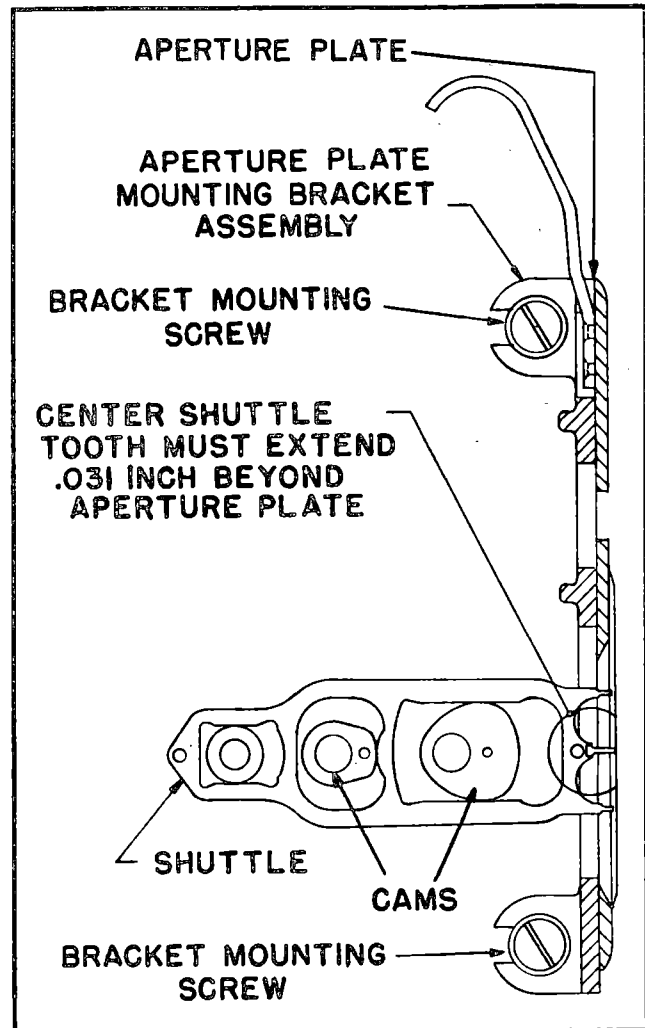

Figure 13. Horizontal Position of Shuttle and Cams
b. Turn threading knob clockwise until the center shuttle tooth is at its maximum protrusion position. The cams should be parallel to the shuttle as shown in figure 13.